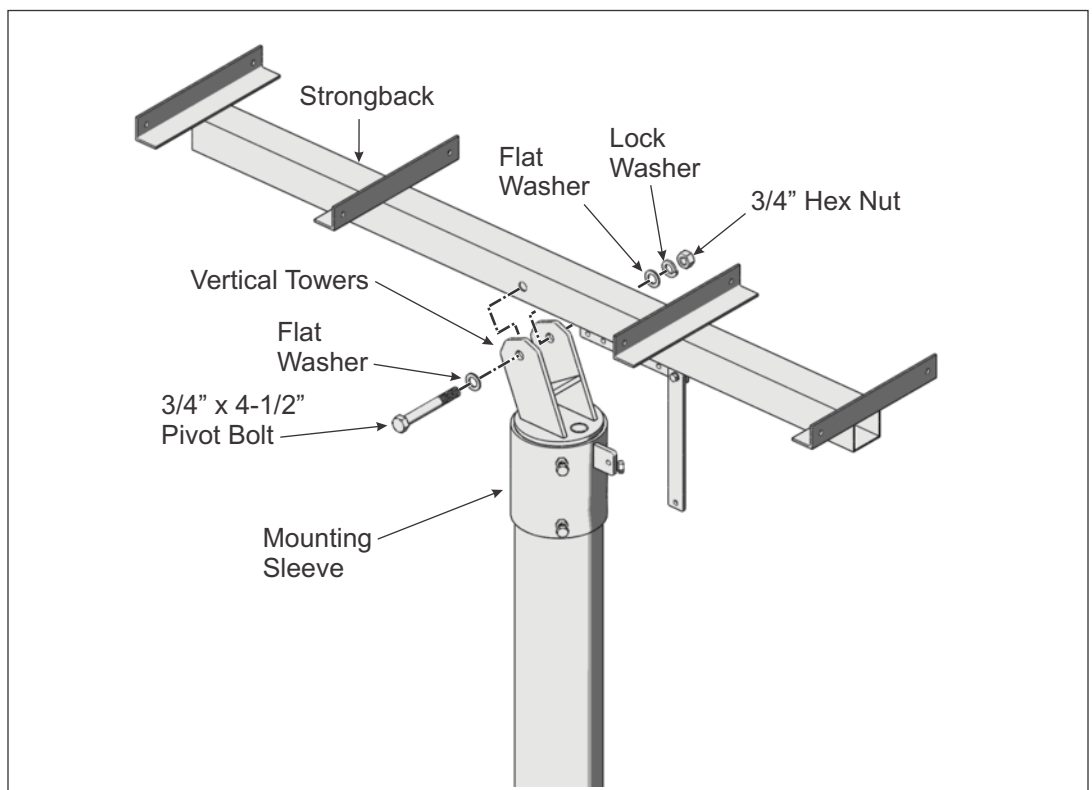

Figure 2-2: Installing the Strongback
- B. Remove the Pivot Bolt from the Mounting Sleeve and also collect the 3/8" x 1-3/4" bolt, flat washers and lock washer needed to secure the Support Bar to its Pivot Tab on the Mounting Sleeve. (See Figure 2-2)